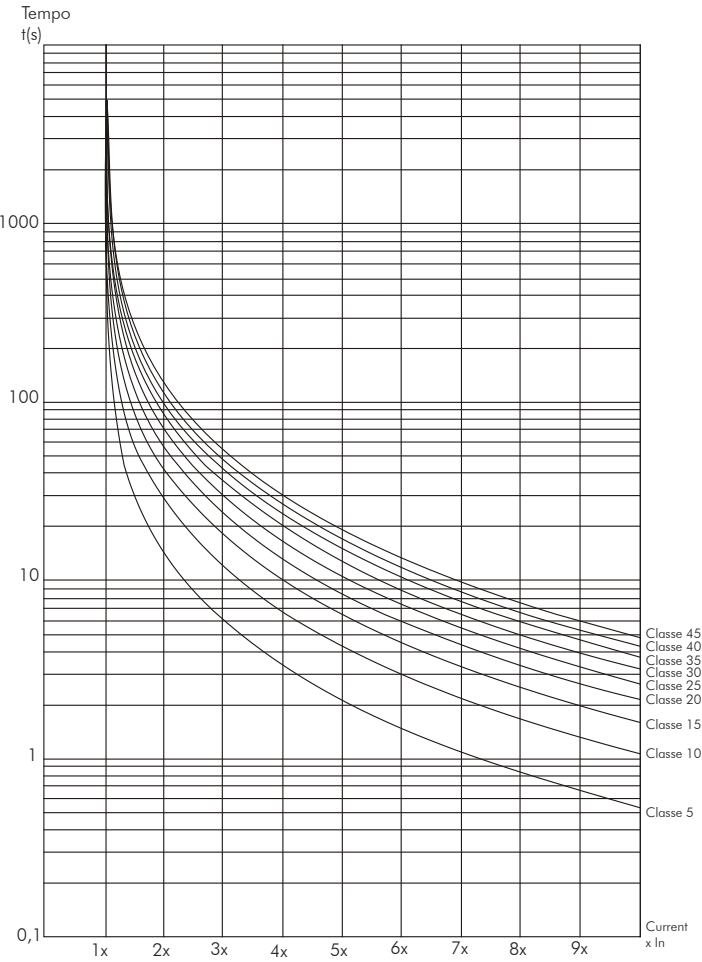

Figure 5.27 - Tripping classes for warm motor protection with 100 %  $I_n$
2) At the figure 5.27 we verify the maximum tripping class that the motor withstands due to the warm locked rotor time. For  $6.6 \times I_n @ 12 \text{ s}$  we adopt the closest curve below the found point: Class 40.